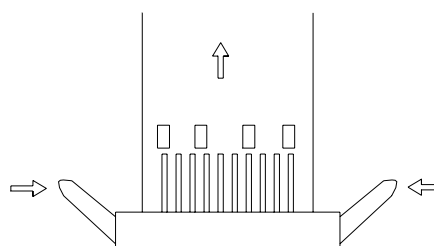

Fig. 4-24
- (5) Fix the range wires as FIG.4-24, the means are: Insert the range wires first, make sure that its notch is tallied with the flange of the row seat, then, press it down to its normal position.